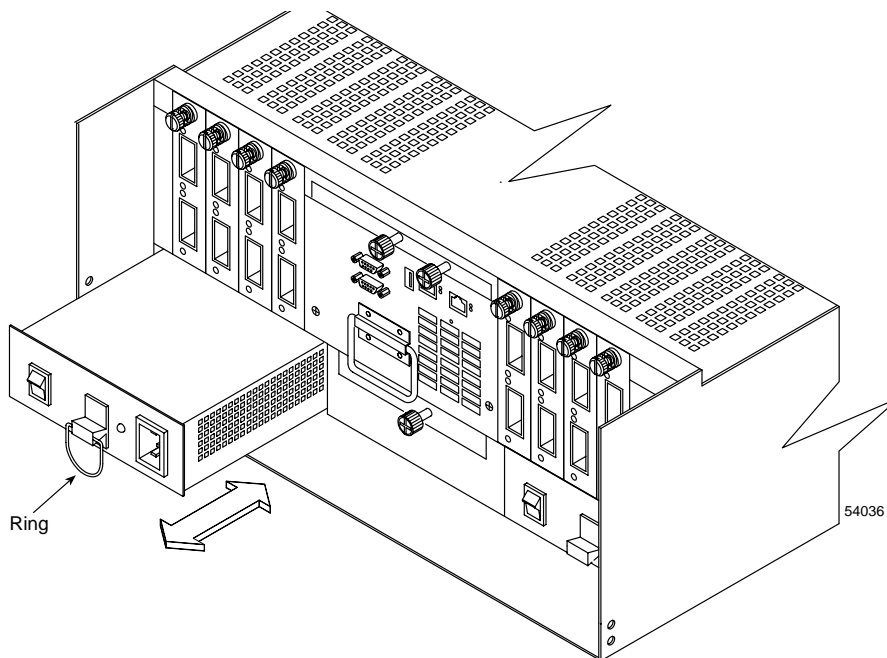

Figure 4-12 Removing and Installing a Power Supply Canister
4. Remove the failed power supply (see Figure 4-12). Pull up on the ring to release the canister, and then slide it out of the enclosure.
7. Install the new power supply canister (see Figure 4-12). Push the canister into the slot until it locks in place.